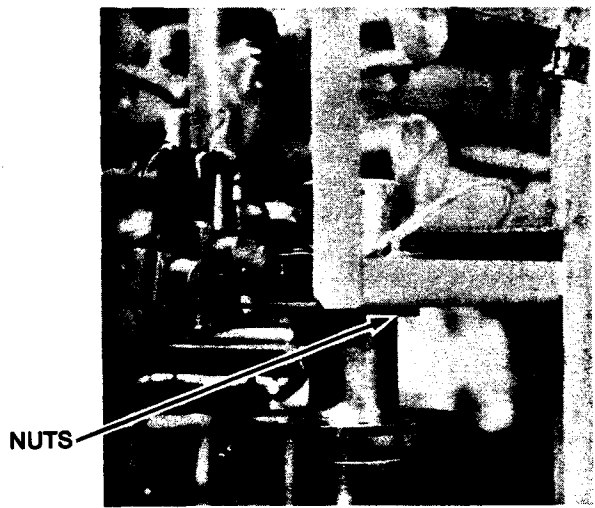

Figure 6-12. Removing Pump Valve
4. Remove the three nuts securing the pump valve assembly to the orange frame (Figure 6-12). Remove the assembly to a bench.